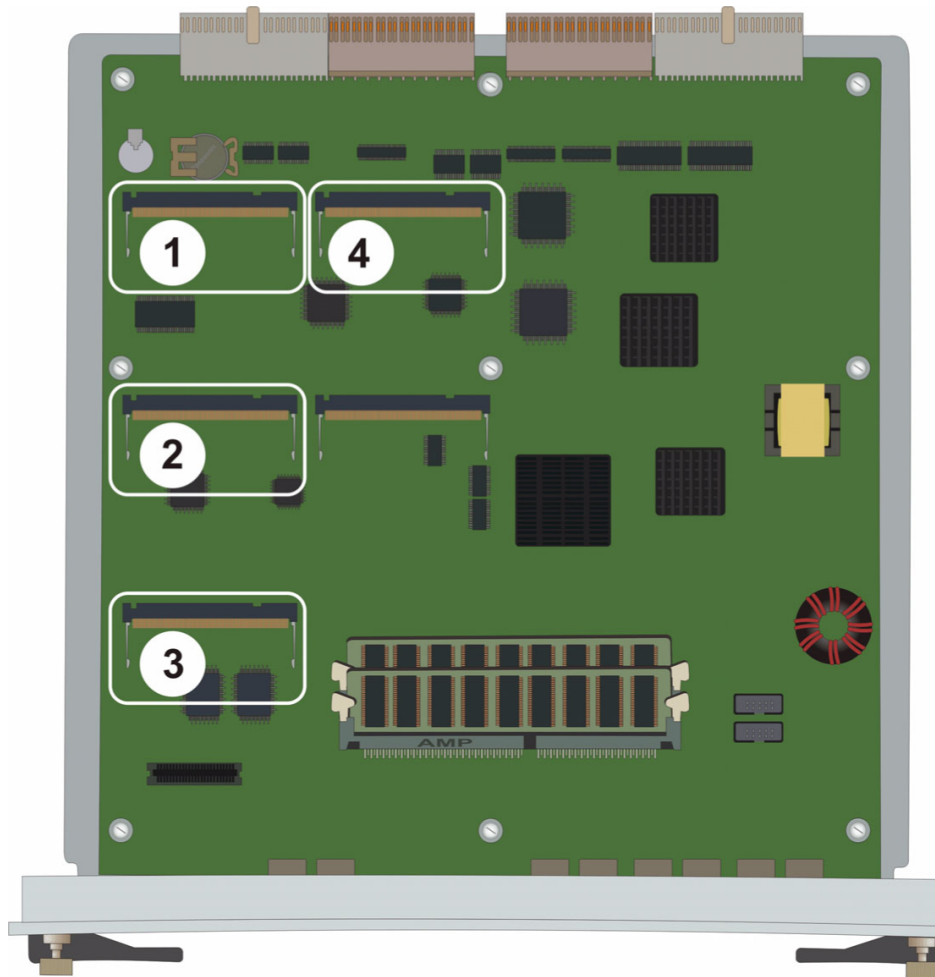
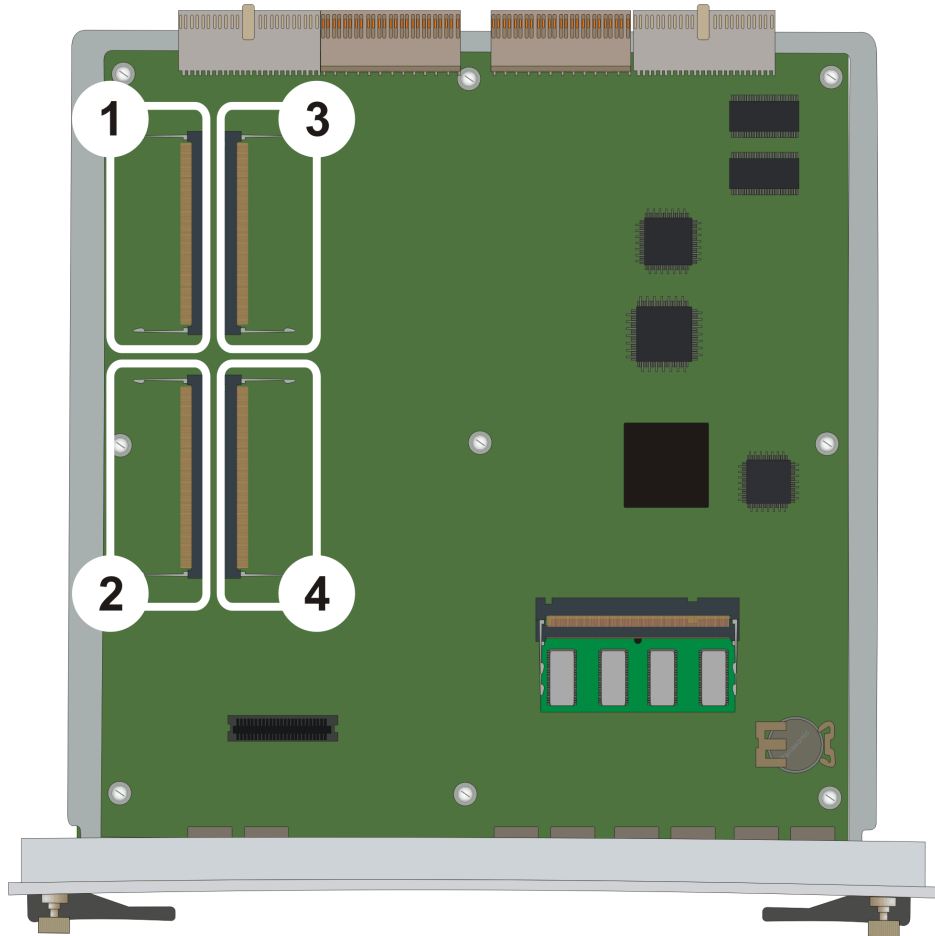

Figure 32: Location of DSP module slots in a G450 1.x
Figure 33: Location of DSP module slots in a G450 2.x
You can only install MP160 in slots 2 and 4 on the G450 1.x or slots 1 and 2 on the G450 2.x. (see Figure 32: Location of DSP module slots in a G450 1.x on page 102 and Figure 33: Location of DSP module slots in a G450 2.x on page 103) On the G450 1.x, the ASB button is to the *right* of the RST button. On the G450 2.x, the RST button is *above* the ASB button.
2. Locate the MP160 module slot. The location differs depending on the hardware version of the G450, see Figure 32: Location of DSP module slots in a G450 1.x on
page 102 and Figure 33: Location of DSP module slots in a G450 2.x on page 103.